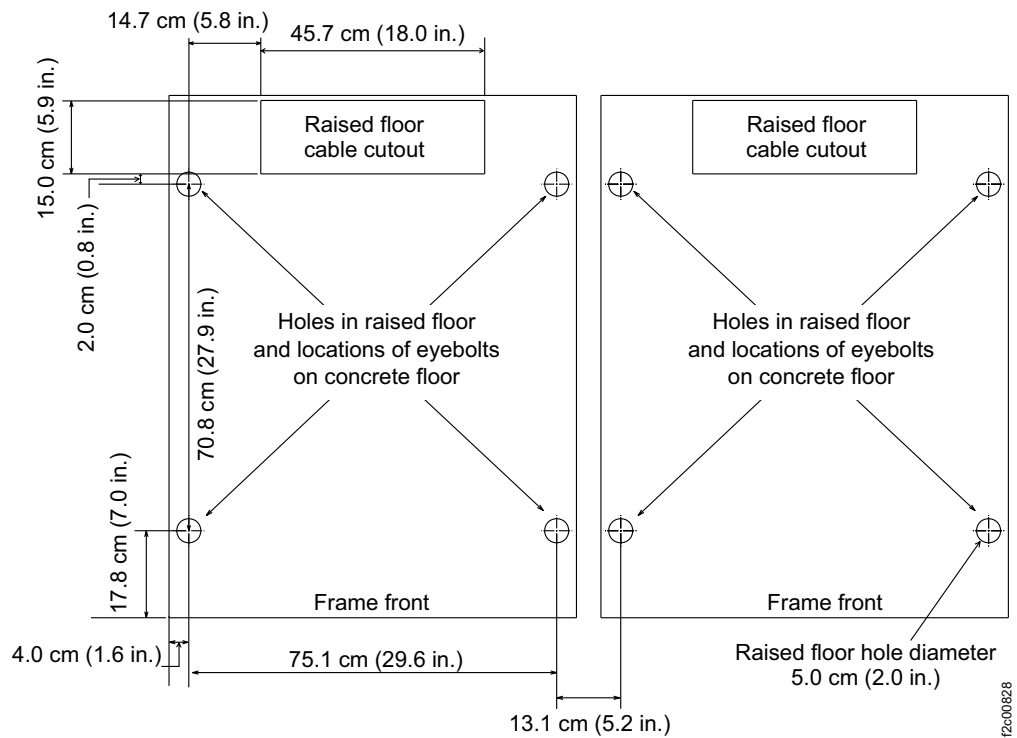

Figure 22. Locations for the cable cutouts and rubber bushing holes in the raised floor and the eyebolt installation on the concrete floor.
See Figure 22 on page 144 as a guide for the location and dimensions of these openings. The pattern repeats for up to four frames. Dimensions are in millimeters (inches).
- See Figure 22 on page 144 to determine the placement of the eyebolts. The eyebolts must be installed so that they are directly below the holes that you cut in the raised floor for the rubber bushings.